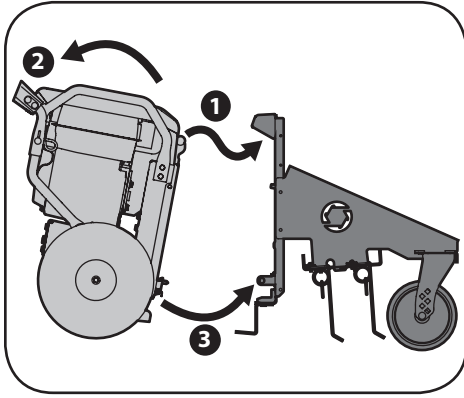

Figure 4-3
2. Roll the FLEX™ Power Base forward and tip it up, engaging the top part of the dethatcher attachment with the handle mount provided on the FLEX™ Power Base (1 of Figure 4-3).
- Tip the FLEX™ Power Base backwards to engage the two bottom connection points (2 and 3 of Figure 4-3).